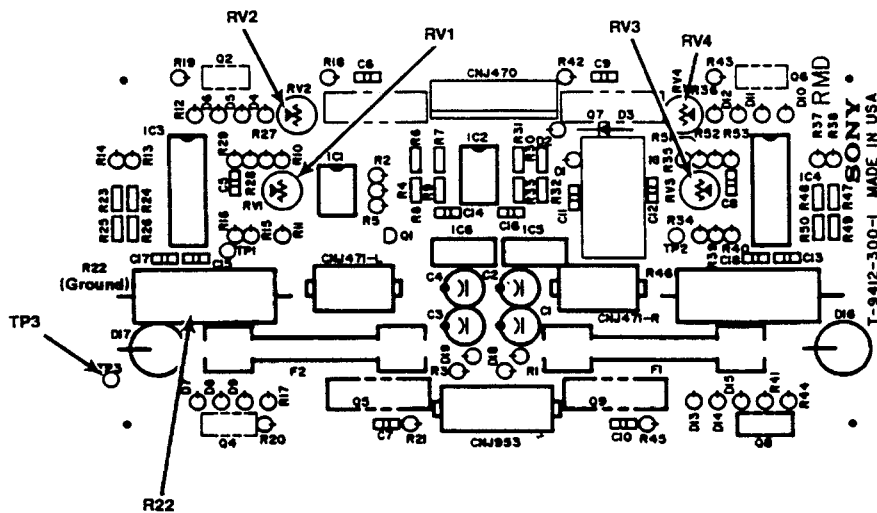

Figure 6-12. DVM Connection to the RMD Board
- STEP 4** Connect the Digital Voltmeter to the RMD board as shown in Figure 6-12.
STEP 1 Adjust RV2 on the RMD board (refer to Figure 6-12) so that the voltage reading across R18 equals $+0.001$ volts DC. This adjustment must be made when the machine is in EDIT mode and no tension or reel motor rotation is occurring (refer to Figure 6-12 for DVM probe attachment points).